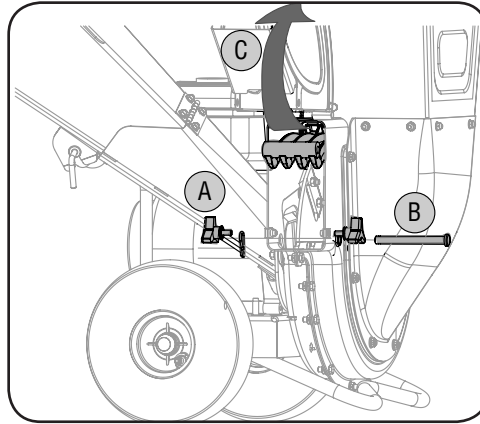

Figure 4-1
2. If attached, remove debris bag. Remove the two wing knobs on either side of the chute deflector and pivot the chute deflector upward. See A in Figure 4-1.
3. Remove the hairpin clip from the clevis pin which extends through the housing and shredder screen. See B in Figure 4-1. Remove clevis pin.
4. Pivot the shredder screen upward. See C in Figure 4-1. Clean the surrounding area by scraping away debris.
9. Remove the hairpin clip from the clevis pin which extends through the housing and shredder screen. See B in Figure 4-1. Remove clevis pin.
10. Pivot the shredder screen upward. See C in Figure 4-1. Clean the surrounding area by scraping away debris.